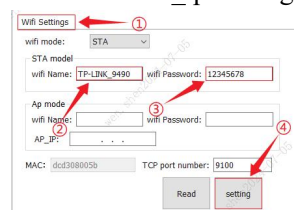

Fig.1
3. Once the "STA Mode" has been enabled, please enter the name and password of your external WiFi network (e.g. router) and confirm (shown in Fig.1).